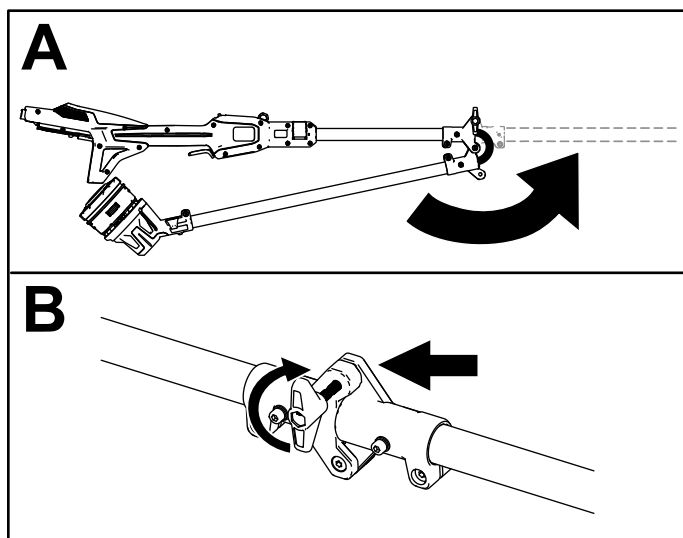

Figure 7
1. Unfold the shaft (A of Figure 7).
2. Secure the shaft together at the coupler using the connector knob (B of Figure 7).